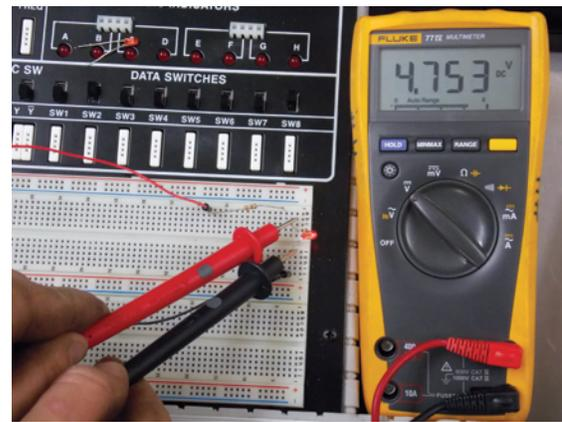

Figure 2.4 Using a voltmeter to test for a voltage drop (courtesy author)
4. To measure a voltage drop across a piece of the circuit such as a light bulb, connect the digital multimeter in parallel with the light bulb (Fig. 2.4). This analysis is useful because it provides information if the circuit is operating correctly. All sensors typically output a voltage that corresponds to a specific speed, position, and temperature. For example, if your auto-steer system is not steering correctly, you may want to check the wheel-angle sensor to ensure it is functioning properly. To do this, connect one probe to the input wire and the other to the ground wire of the sensor. As you turn the wheels from left to right, you should see the voltage change accordingly (hypothetically -2.5 – +2.5